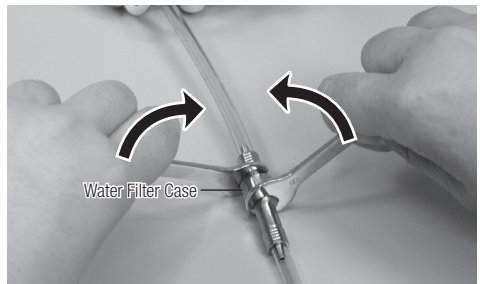

Fig. 25
1) Turn off the water supply to which PRESTO AQUA LUX is connected. Use two (5x8) spanners as shown in Fig.25 and turn in the direction as shown. Should the water tube becomes twisted as a result of this, relieve the twisting by releasing the spanners and make sure the tube between the water filter and the unit is straight.